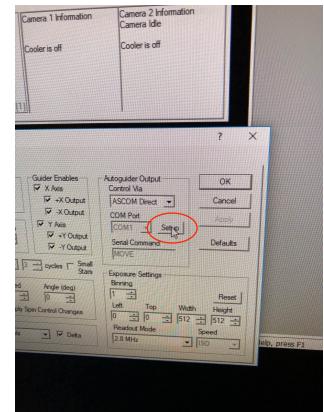

Figure 3: ASCOM Direct
- d. In the *Autoguider* output section of the settings box, there should be a little selector that says "ASCOM Direct". Click the *Setup* button in the *Autoguider* output section (Figure 3).